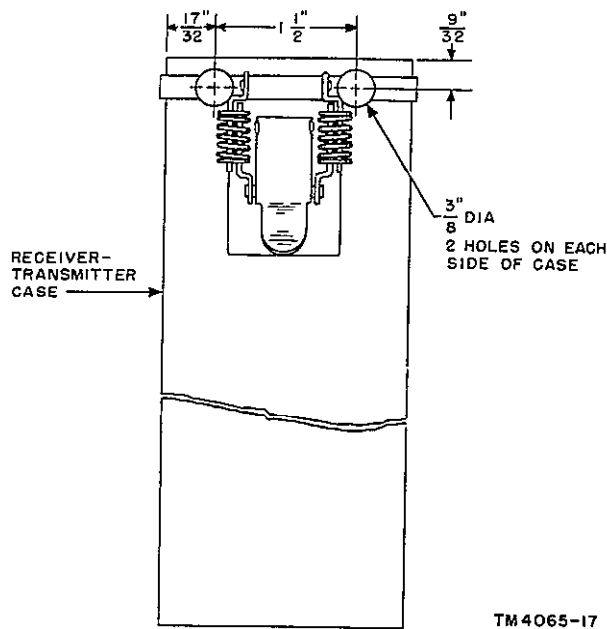

Figure 44. Holes in jig used for panel and chassis alignment.
- (1) Replace LITE CAP socket J4, dial lock and tuning drive assembly (par. 71c), AUDIO connector, TUNING knob, POWER switch, and the VOL and SQUELCH controls on the control panel.
- (2) Carefully position the control panel back in place over the chassis.
- (3) Replace the panel on the chassis with the four 6-32 by 1/4-inch binder-head screws, which were previously removed. The scissor gear of the tuning gang and the pinion of the tuning drive should smoothly mesh in their original positions.
- (4) Remove the spring tension clip (or bus wire) from the TUNING gang scissor gear. Replace the drum dial pointer and dial pointer spring in their original positions.
- (5) Replace the two mounting screws that fasten the tuning drive mechanism to the chassis. These screws can be reached through the openings in the dial drum.
- (6) Solder the two leads back to their original connections; one lead at LONG ANT connector J1-A extending coil L6, and the second lead at terminal 4 of L6 extending from AUX ANT connector J3.
*c. Mechanical Alinement of Panel and Chassis Assembly.* A jig (fig. 44) is required to assure correct mechanical alinement of the panel and chassis assembly so that it fits properly in its case.
- (d) Drill four  $\frac{3}{8}$ -inch diameter holes, two on each side of the case, near the front (top), as shown on figure 44.
- (2) Use a jig.